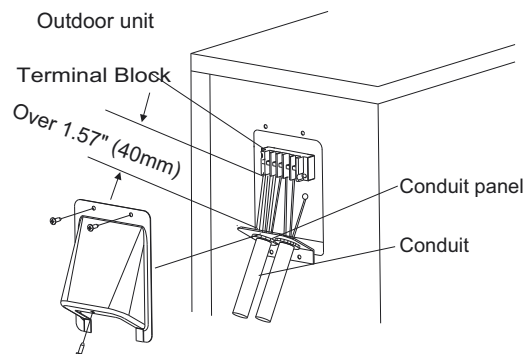

Fig. 12 – Field Wiring
5. Connect the conduit to conduit panel (see Fig. 12).